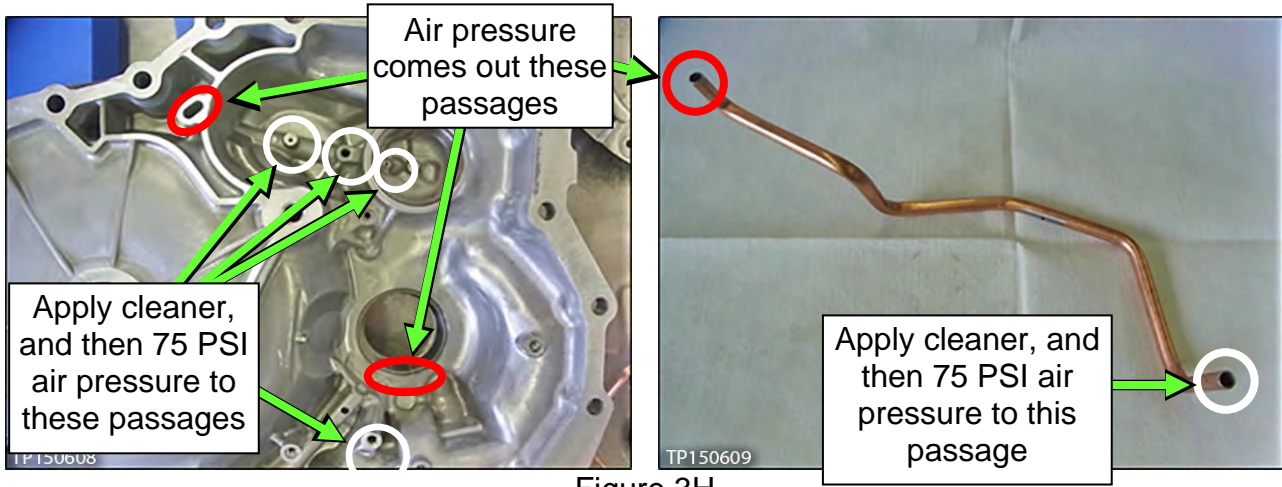

Figure 3H
2. Clean the oil passages of the converter housing, lubrication tube and dummy cover with brake spray (or equivalent) where shown in Figures 3H and 4H below.